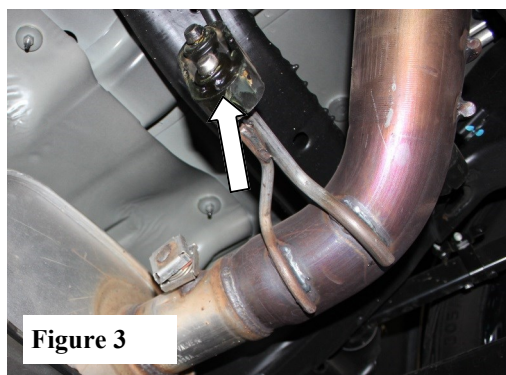

Figure 3
3. Lubricate all the hangers and rubber isolators. (See Fig. 3)